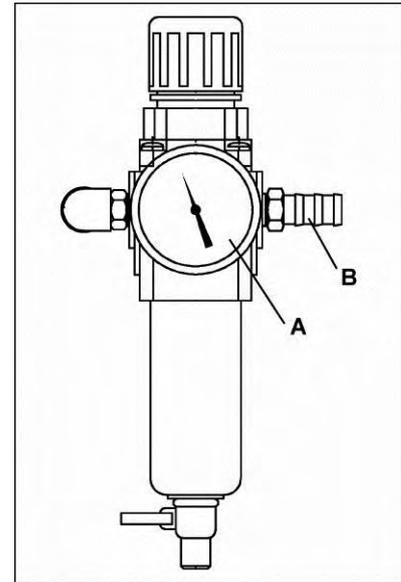

Fig. 3.13
3.5. Compressed air connection (Figure 3.13)